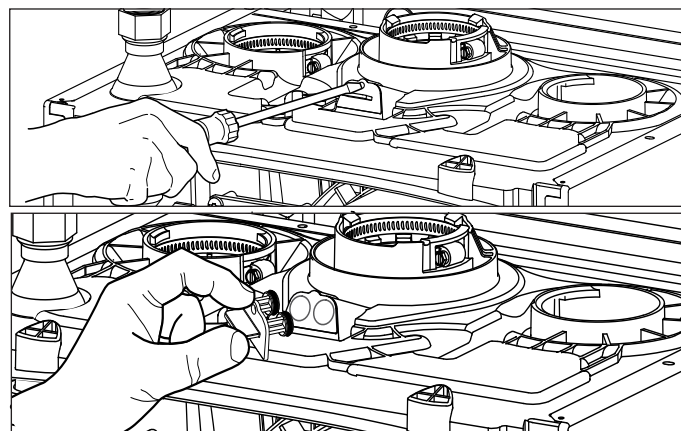

Figure 84 - Combustion Test Port
- Reinstall the combustion test port - see Figure 84.